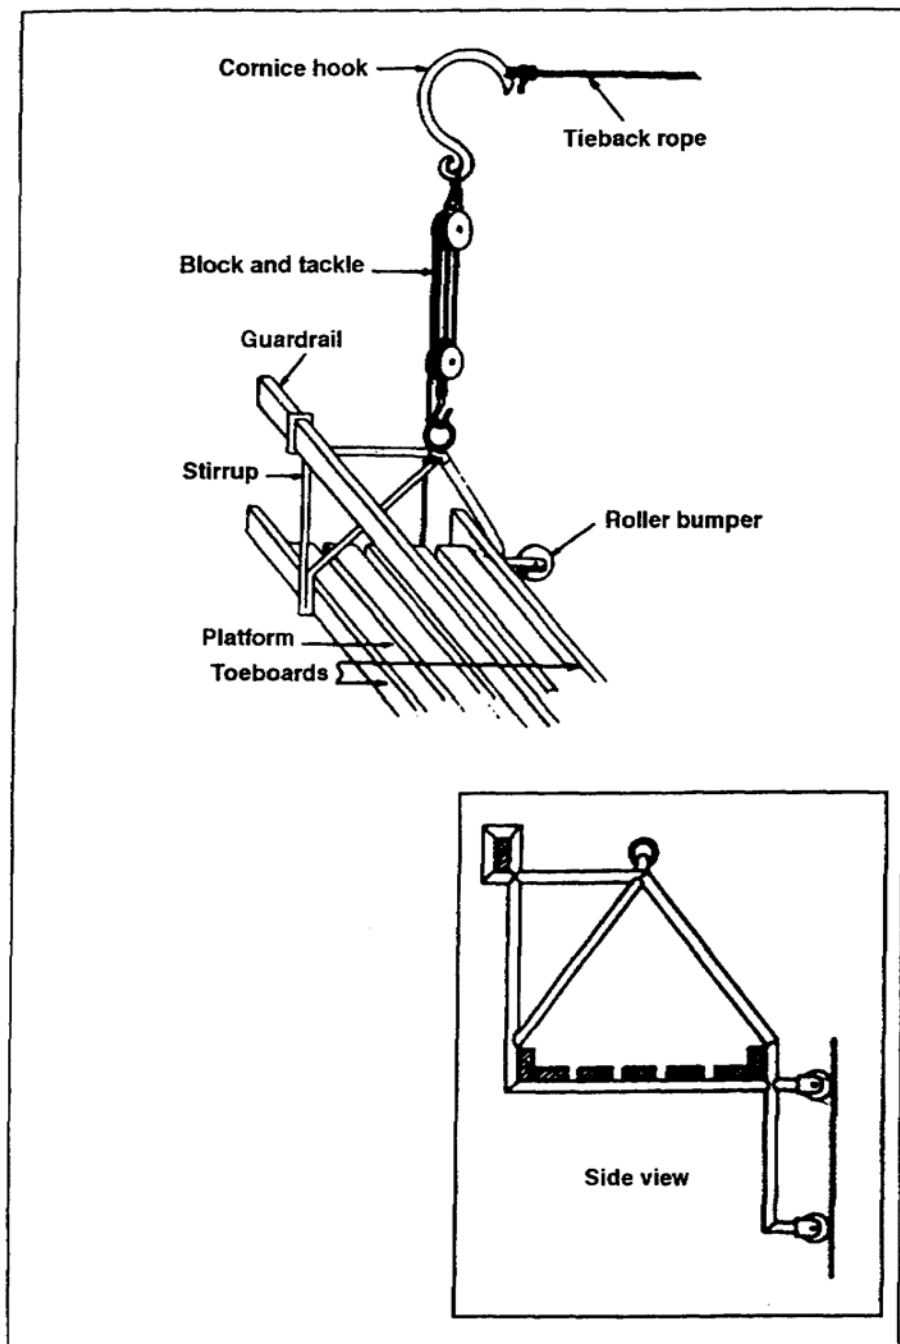

Figure 4-19. Swing-stage scaffold
(3) Rolling tower. Use a rolling tower if the scaffold will be subjected to frequent moves; however, use a rolling tower only on solid floors. To construct a rolling tower, replace the scaffold footing plates with locking casters. For safe operation, the tower's height must not exceed four times its smallest base dimension; in addition, the tower must have a guardrail above the working platform.
c. Swing-stage scaffold. A swing-stage scaffold (Figure 4-19) is used to reach the upper surfaces of an exterior wall, and it is suspended from the building's roof or cornice with ropes or steel cables. The scaffold consists of the following parts: two block-and-tackle sets, two cornice hooks, two swing stirrups, a guardrail, and a platform.